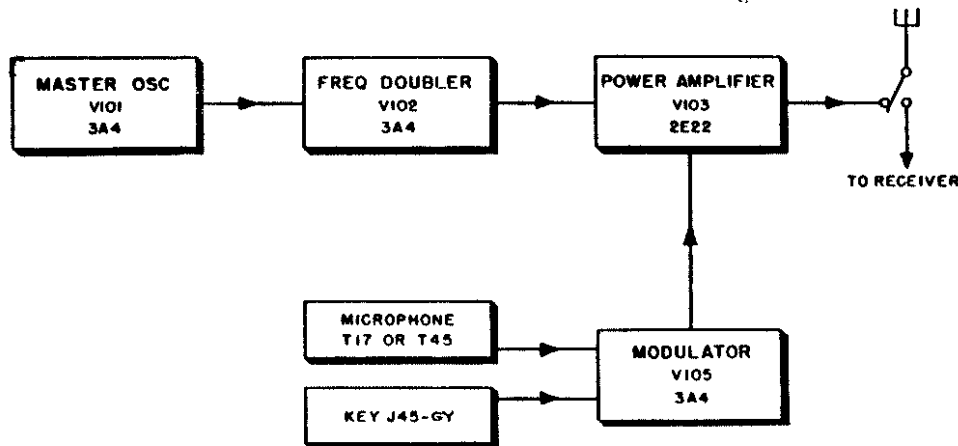

Figure 66. Block diagram of transmitter section of receiver-transmitter RT-77/GRC-9-GY.
(fig. 66)
a. GENERAL. The transmitter section of Receiver-Transmitter RT-77/GRC-9-GY consists of a master oscillator, frequency doubler, power amplifier, and modulator circuit as shown in the block diagram (fig. 66). The circuit is designed to provide c-w, mcw, and voice modulated signals over a frequency range of 2.0 to 12.0 mc. As in the case of the receiver, the frequency range is covered in three bands, 2.0 to 3.6 mc, 3.6 to 6.6 mc, and 6.6 to 12.0 mc.
b. BLOCK DIAGRAM (fig. 66). The block diagram shows a master oscillator, which can be either self-excited or crystal-controlled, to supply an r-f signal voltage to the grid of the doubler stage whose plate circuit is tuned to the second harmonic of the input signal. The output of this stage is fed to the grid of the power amplifier stage at a sufficient power level to drive the power amplifier as a Class C amplifier. The modulator circuit supplies the audio power necessary to suppress grid modulate the power amplifier during phone and mcw operation. The